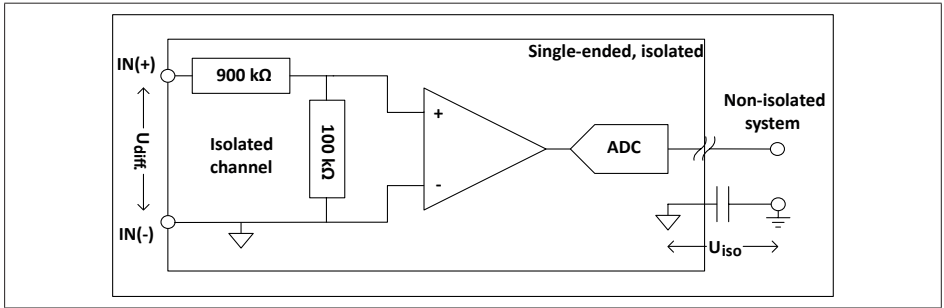

Fig. 13.58 Single-ended isolated input channel
- The isolated ground is externally accessible, as shown in Fig. 13.58.